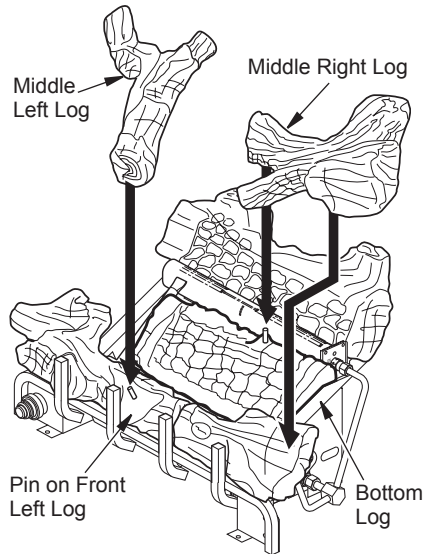

Figure 19 - Installing Log Set
5. Place middle right log over front right and bottom logs as shown in Figure 19. Be sure hole in middle right log seats over pin in bottom log.
6. Place middle left log over front left and bottom logs as show in Figure 19. Be sure hole in middle left log seats over pin in front left log.